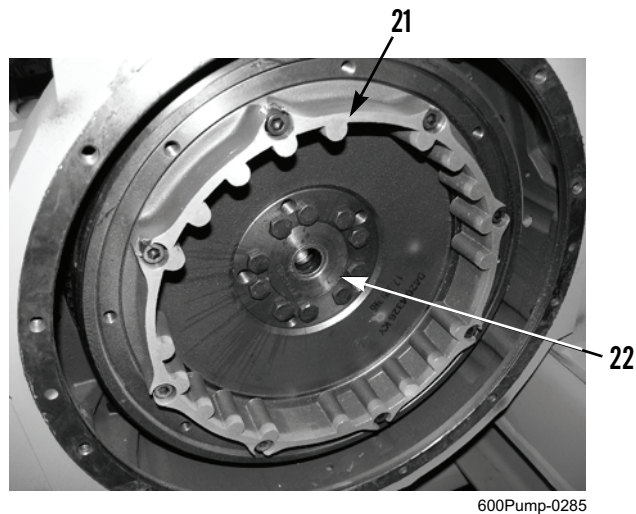

Figure 5. Outer Ring of Coupling and Pilot Bushing Assembly at Engine Flywheel Bore.
10. Inspect outer ring (Figure 5, Item 21) of coupling on engine flywheel. If damaged, remove IAW WP 0073.
11. Inspect pilot bushing assembly (Figure 5, Item 22) inside engine crankshaft for excessive wear. If damaged, remove IAW WP 0073.